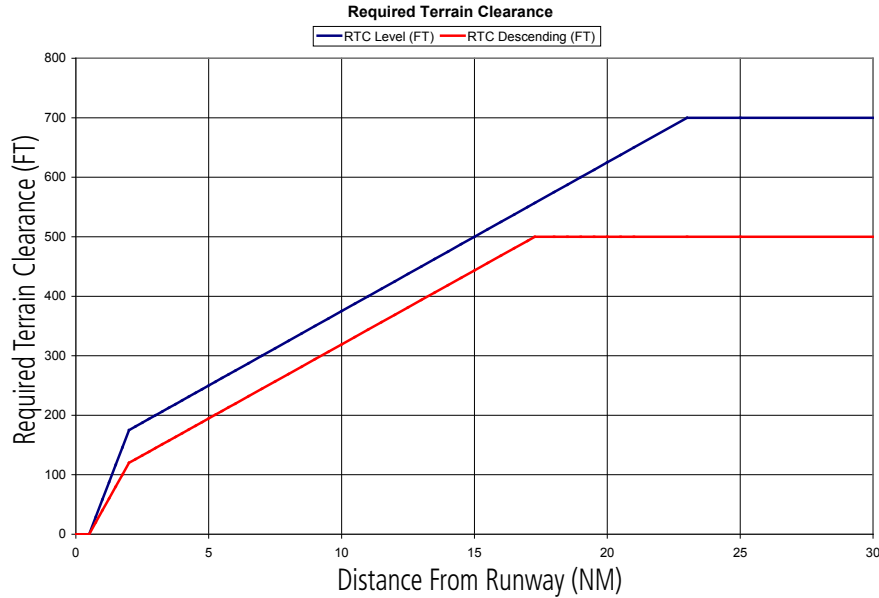

Figure 6-104 FLTA Alert Minimum Terrain and Obstacle Clearance Values
**Reduced Required Terrain Clearance (RTC)** and **Reduced Required Obstacle Clearance (ROC)** alerts are issued when the aircraft flight path is above terrain, yet is projected to come within the minimum clearance values in Figure 6-104. When an RTC alert is issued, a potential impact point is displayed on the Terrain-SVS Page.
**Imminent Terrain Impact (ITI)** and **Imminent Obstacle Impact (IOI)** alerts are issued when the aircraft is below the elevation of a terrain or obstacle cell in the aircraft's projected path. ITI and IOI alerts are accompanied by a potential impact point displayed on the Terrain-SVS Page. The alert is annunciated when the projected vertical flight path is calculated to come within minimum clearance altitudes in Figure 6-104.